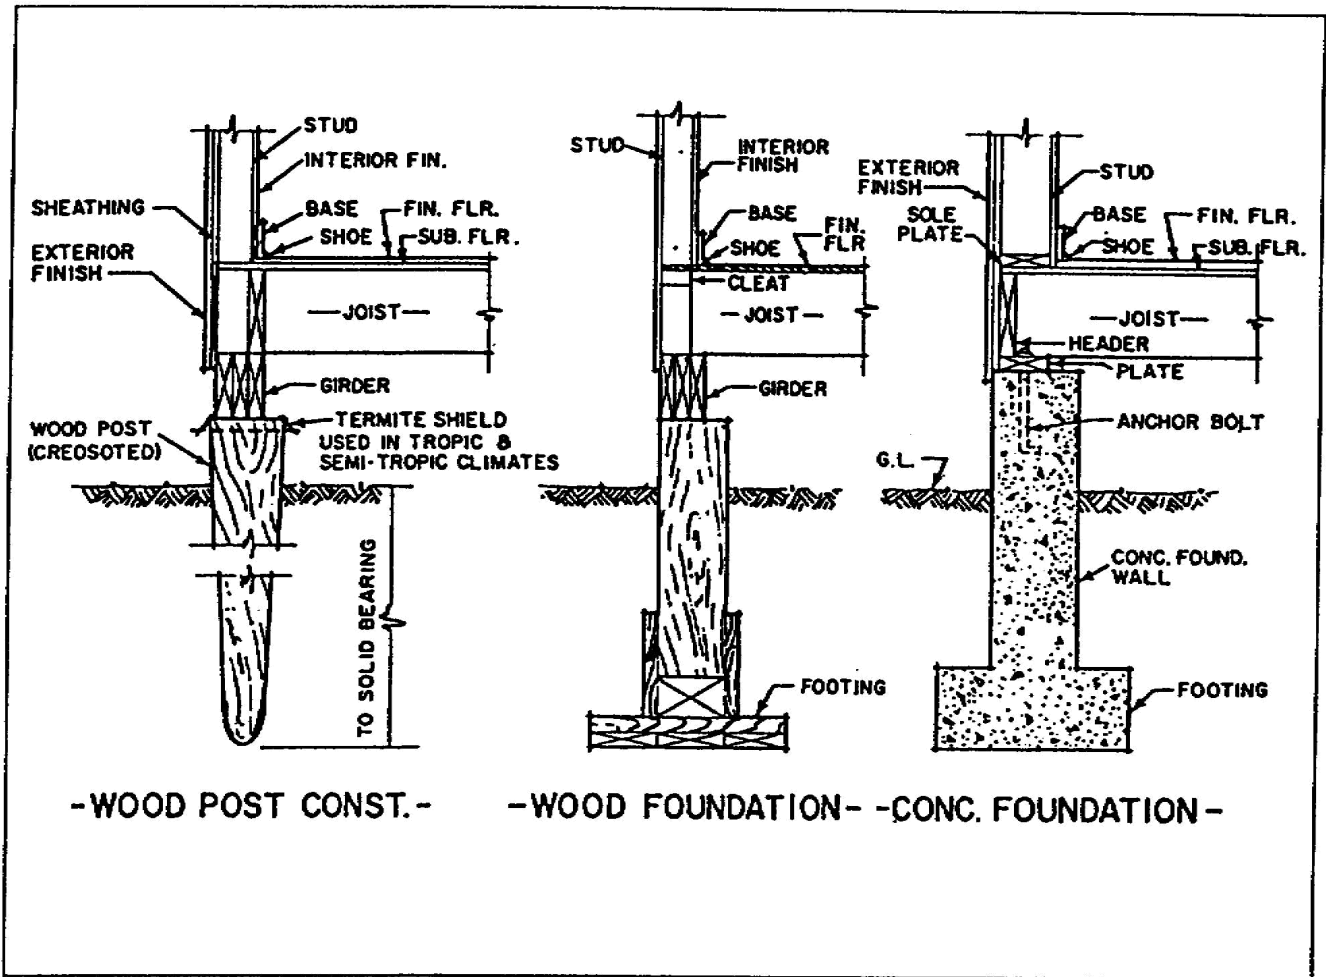

Figure 1-14. Typical foundation wall, post, footing, and girder details
e. Wood-Framing Drawing. Framing plans show the size, number, and location of the structural members constituting the building framework. Separate framing plans may be drawn for the floors, walls, and roof. The floor-framing plan must specify the sizes and spacing of joists, girders, and columns used to support the floor. Detail drawings are added, if necessary, to show the methods of anchoring joists and girders to the columns and foundation walls or footings. Wall-framing plans show the location and method of framing openings and ceiling heights so that studs and post can be cut. Roof-framing plans show the construction of the rafters used to span the building and support the roof. Size, spacing, roof slope, and all necessary details are shown. Working prints for theater of operation (TO) buildings usually show details of all framing.
f. Light Wood Framing. Light framing is used in barracks, bathhouses, administration buildings, light shops, hospitals, and similar structures. Detailed drawings of foundation walls, footings, posts, and girder details normally used in standard TO construction are shown in Figure 1-14, page 1-16.